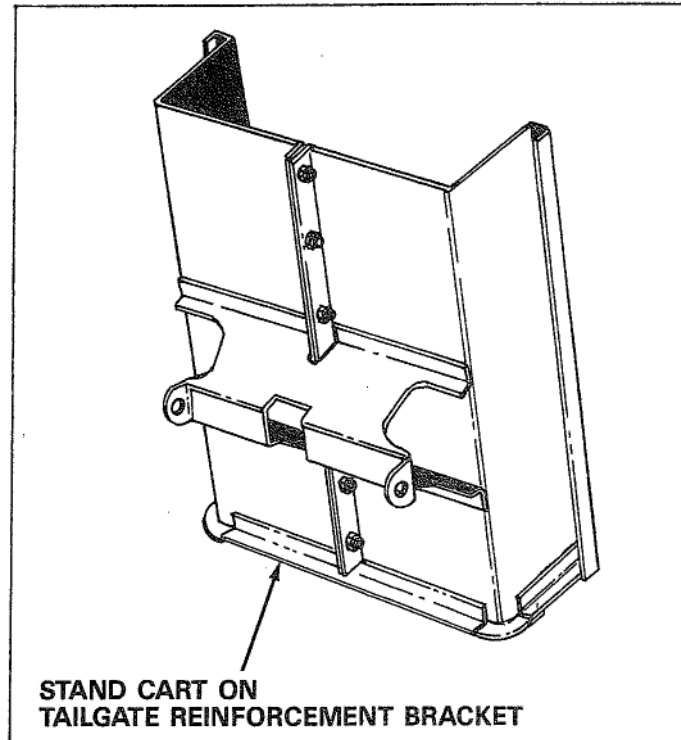

FIGURE 6
11. Reverse the cart position and stand on tailgate reinforcement bracket and proceed with assembly steps 12 through 19. See figure 6.